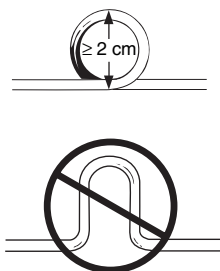

Figure 4. Coiling excess lead.
- Coil the excess lead body into a circular loop greater than 2 cm (0.8 in) in diameter. Do not use a U-shaped loop or bend (Figure 4). A circular loop decreases the possibility of electromagnetic interference and its effects and prevents kinking or damaging the lead body.